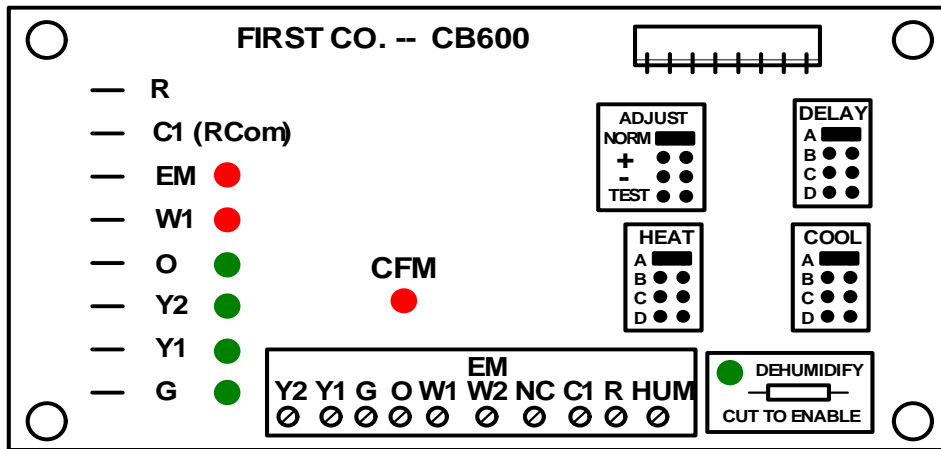

Figure 9 - Select Control Board
**Cooling Select Tap** – Select system airflow for cooling output. See figure 9.
**Heating Select Tap** – Select system airflow for heat output. See figure 9.
**Adjust Select Tap** – Select system CFM airflow requirement. See figure 9.
**Delay Select Tap** – Select desired delay profiles. See figure 9.